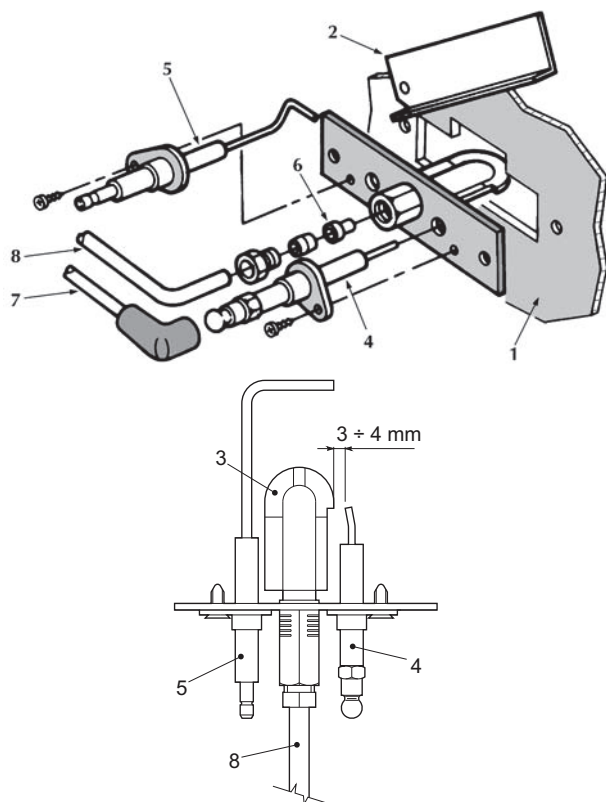

fig. 8 - Pilot burner
- The electrodes must be free of deposits and properly positioned (see fig. 8).
After several lighting attempts, the electronic controller shuts down the boiler.	<ul style="list-style-type: none"> Clean the pilot burner nozzles with compressed air. Check the regular gas flow to the boiler and that the air has been eliminated from the pipes. Make sure the electrodes are correctly positioned and free of deposits (see fig. 8). Make sure the boiler is connected to an efficient earth connection. Check the connections to the ignition and ionisation electrodes.
The electrodes are not discharging in the ignition phase.	<ul style="list-style-type: none"> Make sure the electrodes are correctly positioned and free of deposits (see fig. 8). Control thermostat adjusted too low. Check the power supply. Check the connections to the ignition and ionisation electrodes. Check the connections to the electronic flame controller. Make sure the LINE -NEUTRAL are not inverted and that the earth contacts are efficient. Check the inlet gas pressure and any open gas pressure switches. Reset the safety thermostat. Make sure the room thermostat is closed.